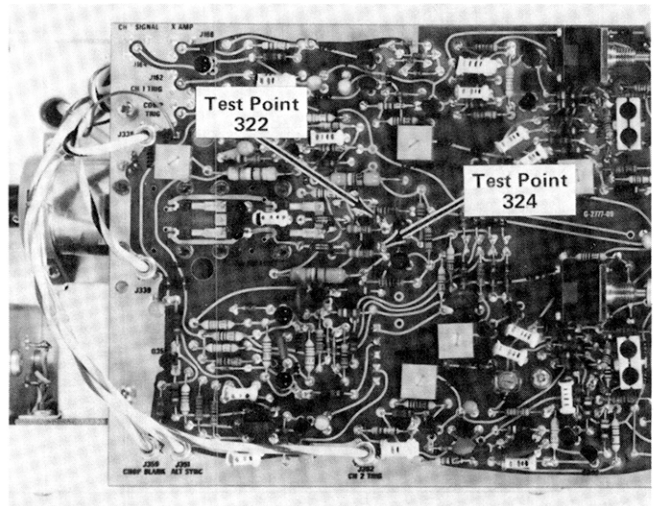

Fig. 5-8. Location of test points 322 and 324.
a. Connect the DC Voltmeter between TP322 and TP324 (see Fig. 5-8).
- e. Connect two X10 probes from the Test Oscilloscope to TP322 and TP324 on the Preamp board of the 465 (see Fig. 5-8).